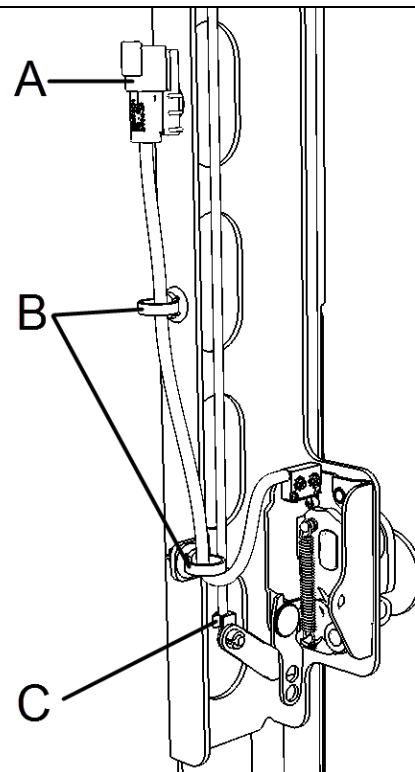

Figure 4
4. Remove the latch assembly (Two screws). Keep hardware for re-use. (Figure 4)